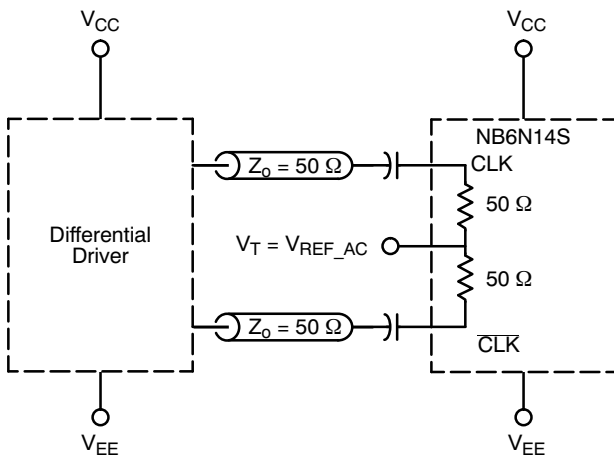

Figure 10. Capacitor-Coupled Differential Interface (V_T Connected to V_{REF_AC})
DIFFERENTIAL INPUTS DRIVEN SINGLE-ENDED (Figures 10, 11, 15, and 17)
- V_{REF_AC} used to rebias capacitor-coupled inputs only (see Figures 10 and 11).